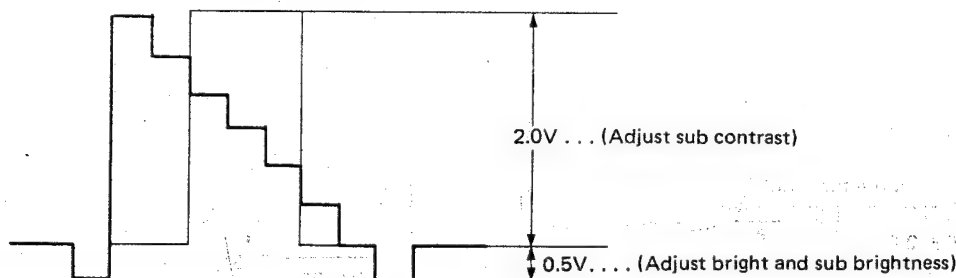

Fig. 21
4. Adjust bright control (R342) and sub brightness control (R559) to obtain the waveform as in fig. 21.
5. Adjust sub contrast control (R316) to obtain the waveform as in fig. 21.